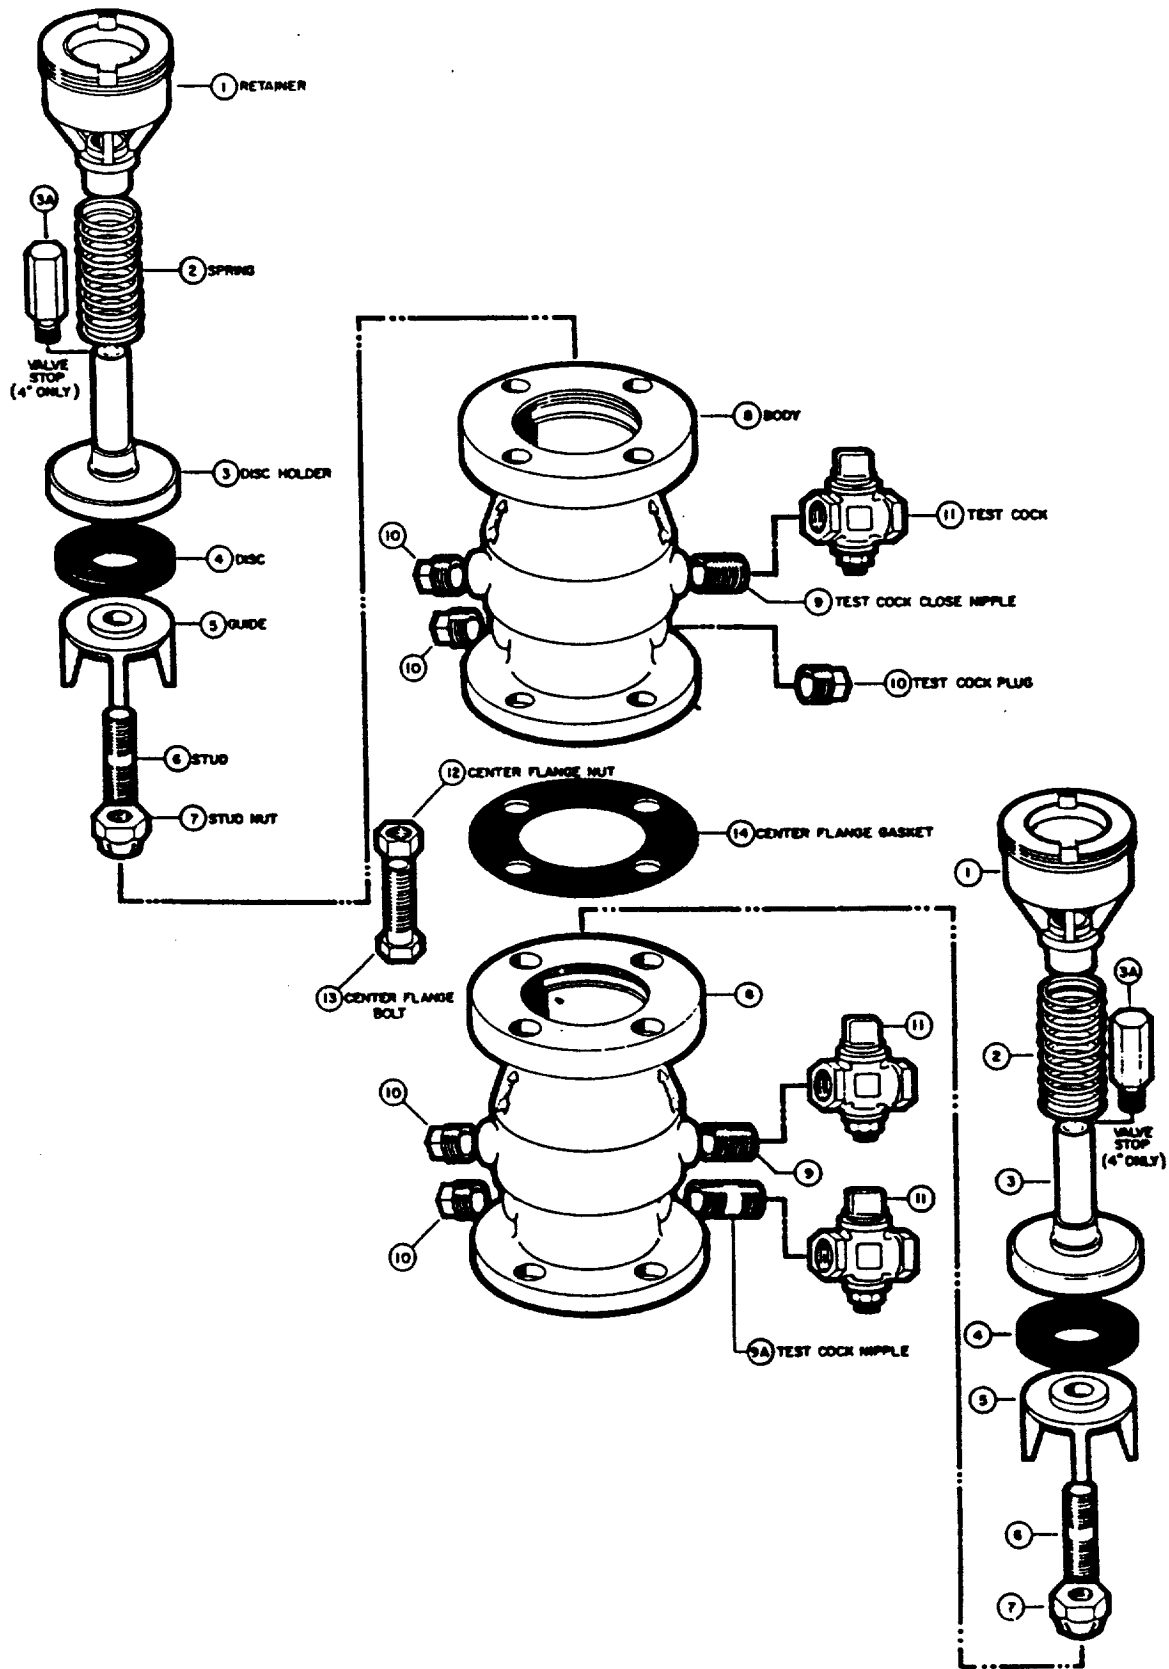

FIGURE 51
1. Disassembly (see Fig. 51)
- a. Unscrew retainer (1) by inserting 1/2" square piece of bar stock in end slot and turning with wrench; or, strike end slot with driver to loosen.
- b. Remove balance of valve assembly, including spring (2).
- c. Unscrew stud nut (7). This releases guide (5).
- d. Remove disc (4) from disc holder (3).
- a. Replace disc (4) and install guide (5) and stud nut (7).
- d. Reassemble check valve to shutoff valve and other check valve, using new gasket (14) if necessary.
- c. Rest assembly on guide (5).
- d. Press down on retainer (1) to compress spring (2).
- f. To replace disc (4), unscrew stud nut (7). This releases guide (5). Remove disc (4).
- a. Place new disc (4) on disc holder (3).
- b. Place guide (5) on disc holder and install stud nut (7).